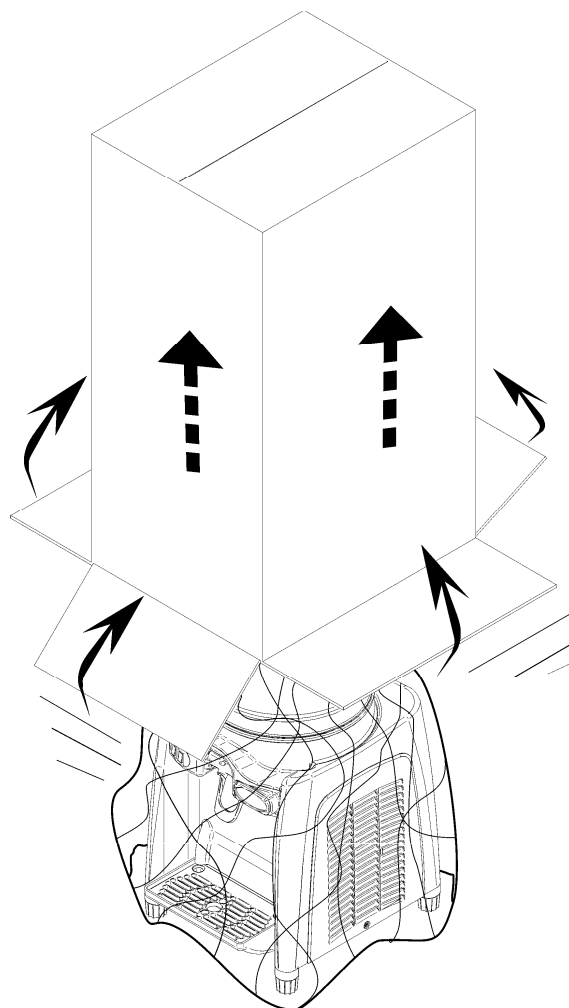
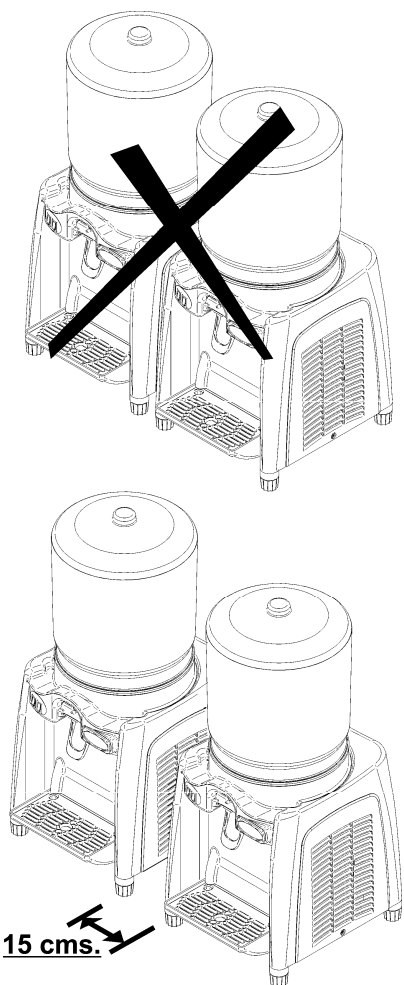

Figure 1
Figure 2
1. Remove the packaging (see Fig. 1) and place the machine in the desired location, taking care to ensure there is enough space around it for ventilation. Make sure there are no other machines within 20 cm. (see Fig. 2).